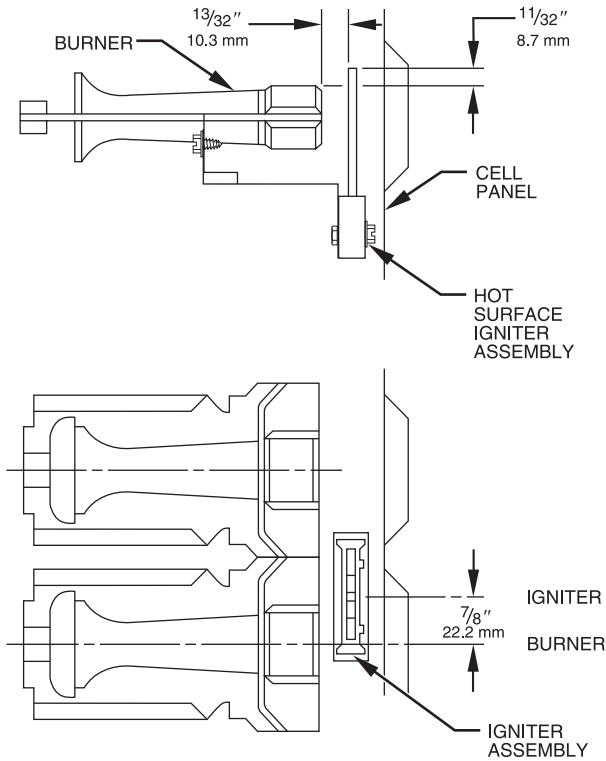

Fig. 45 - Silicon Carbide Igniters
7. For Silicon Carbide igniters, see Fig. 45.